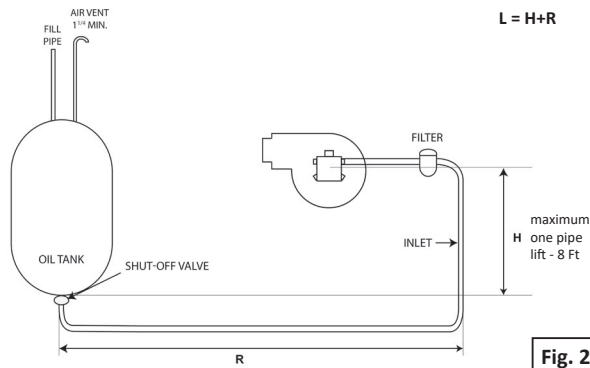

Fig. 2
**ONE-PIPE SYSTEM - INLET LINE ONLY (NO RETURN LINE) - FIGURE 2 :**
See 1-P sketch on p. 2 (figure 2). Units are shipped without the by-pass plug installed; verify it has not been installed!